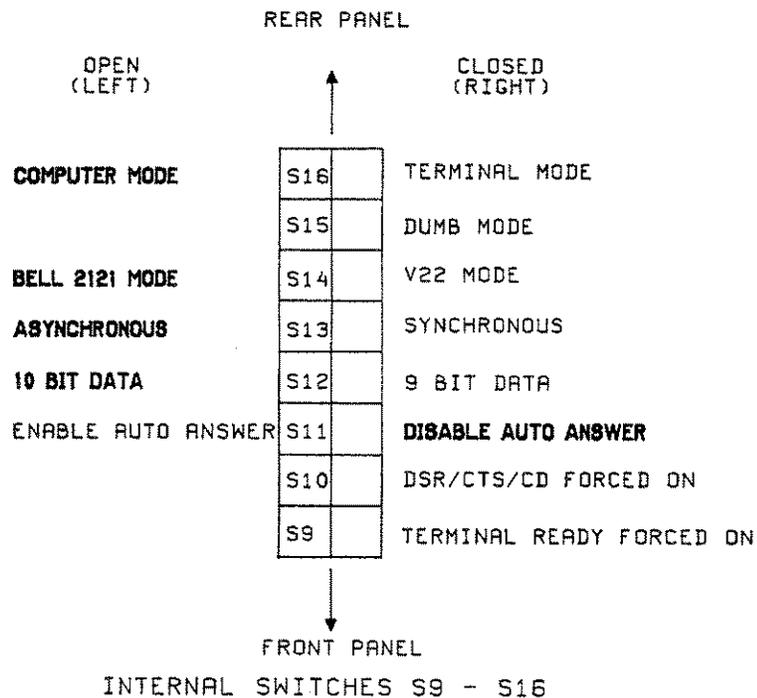

Figure G-3 Modem Switch Position
- (b) Set all the slide switches on the 8 position dual-in-line switch to the left, except for switch 11. The modem is now configured; in computer mode; in the Bell 212A mode; for Asynchronous data; for 10 Bit Data (1 start + 7 data + 1 parity + 1 stop); Auto Answer disabled; and with no modem lines (such as DSR/CTS/DCD or DTR) forced on. See Figure G-3.